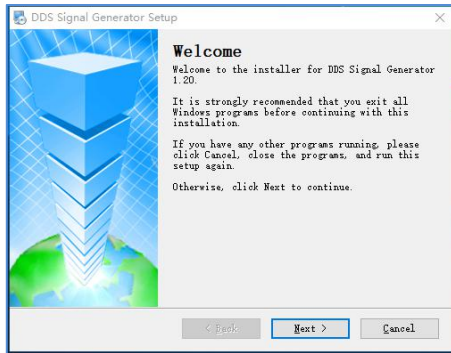
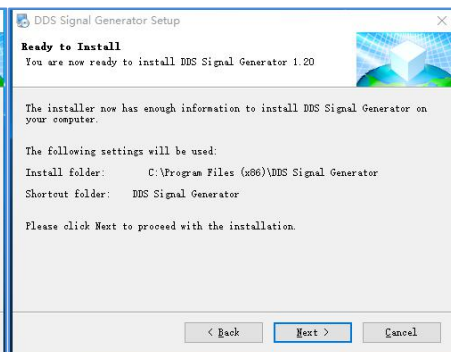

Figure 3-9-5
Figure 3-9-10
- Step 3: Click the key **【Main program】** to install the application. Keep clicking the **【NEXT】** until the **【FINISH】** displayed, and then click it to complete the installation. The application installation interfaces are shown as Figure 3-9-5 to Figure 3-9-10.